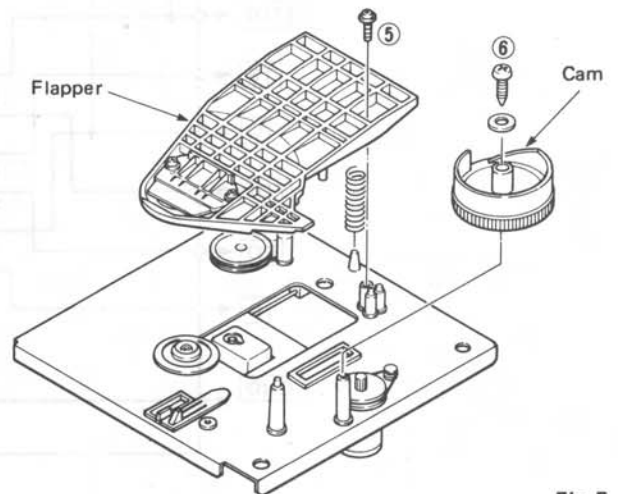

Fig. 5
Loosen screw (5) fixing Flapper in fig. 5 and then remove the Flapper.
Remove screw (6) in fig. 5 and then pull up the Cam.